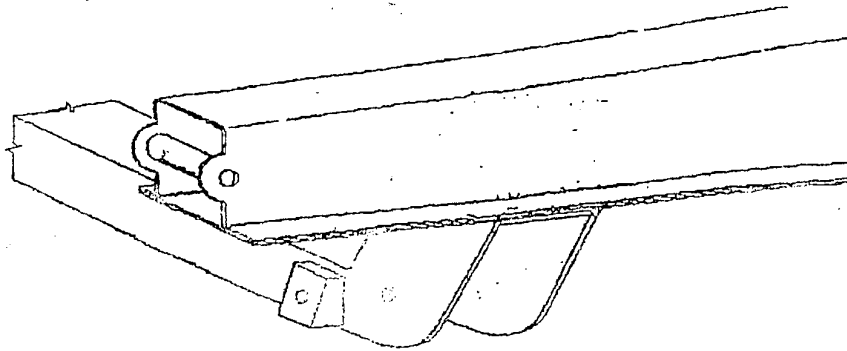

Figure 2
5. Now it is time to start fitting and installing the new components on the frame. Start with the crossmember. (If you are using Heidi's Full Lower A-Arms on your installation, it is easier to install them onto the crossmember now, using their instructions, and then install the crossmember onto the frame). Slip the crossmember up onto the frame, centering it on the scribed spindle centerline. See figure 2.